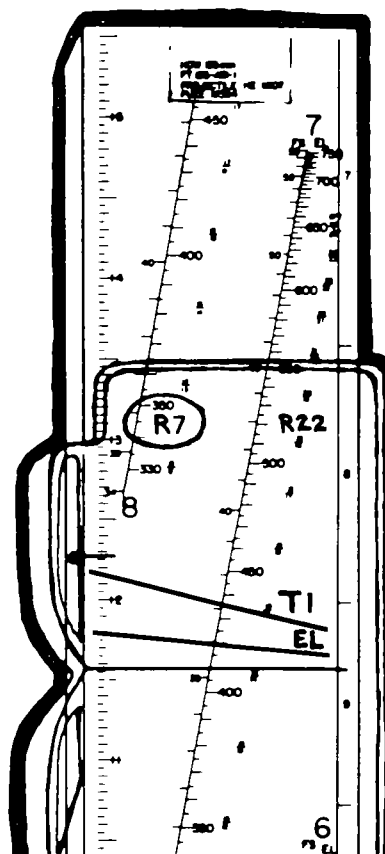

Figure 12-7. GFT fan with two-plot GFT set-
(1) One plot setting. A one-plot setting uses one set of known corrections and is placed on the GFT fan in the same manner as it is constructed on the GFT except that the time (TI) and elevation (EL) gagelines are drawn *parallel* to the manufacturer's hairline (MHL).
(2) Two-plot setting. When two sets of corrections from a combination of registration, MET + VE computation, or FADAC derivation are known, a two-plot GFT setting can be constructed. A two-plot GFT setting is *highly desirable* for both the GFT and GFT fan. To construct the two-plot GFT setting on the GFT or GFT fan:
■ Construct the time gageline by drawing a fine red line through the two time dots. Label the line "TI" (see fig 12-7).